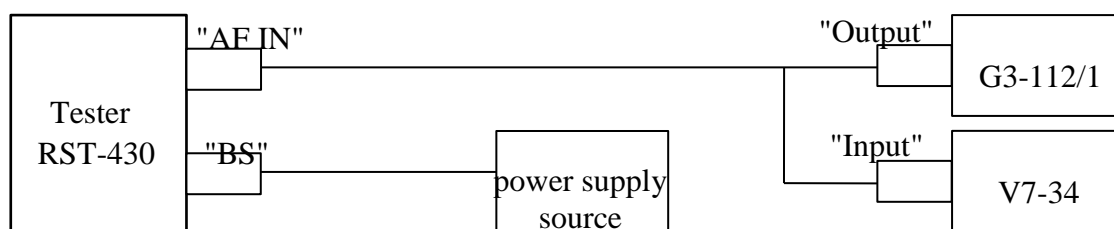

Fig.7
6.3.10 Determination of the error of the alternating voltage measurement is performed according to the diagram shown in figure 7.